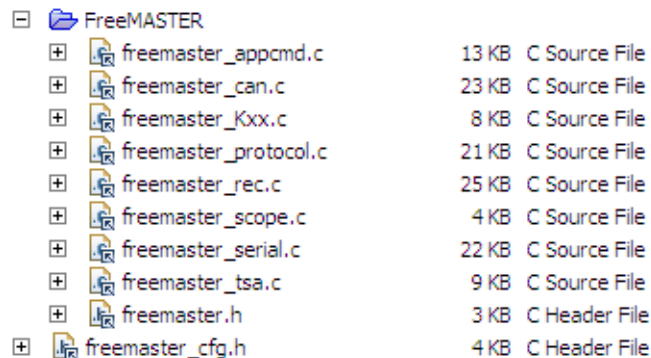

Figure 7-1. FreeMASTER group in CodeWarrior 10.x
- Manual files installation. The `TSS_USE_FREEMASTER_GUI` macro must be set to 1 in the `TSS_SystemSetup.h` file and files added manually to the project. See Figure 7-1.